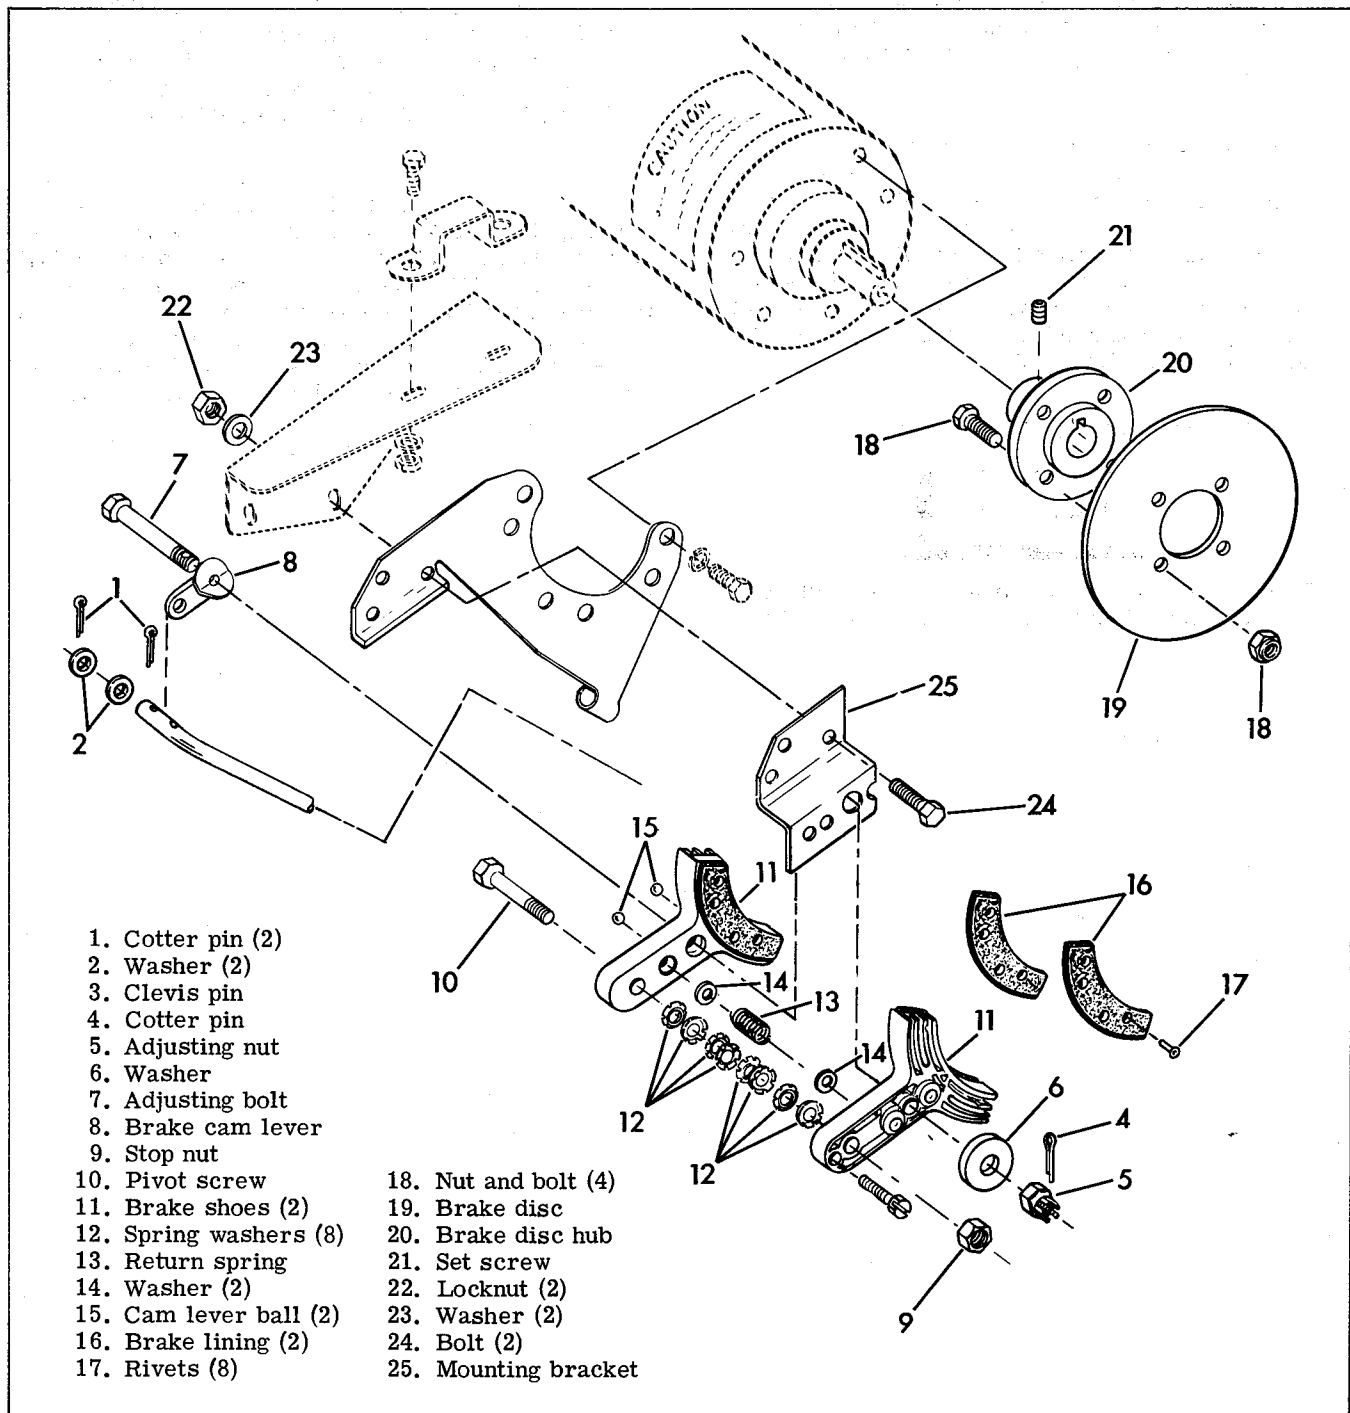
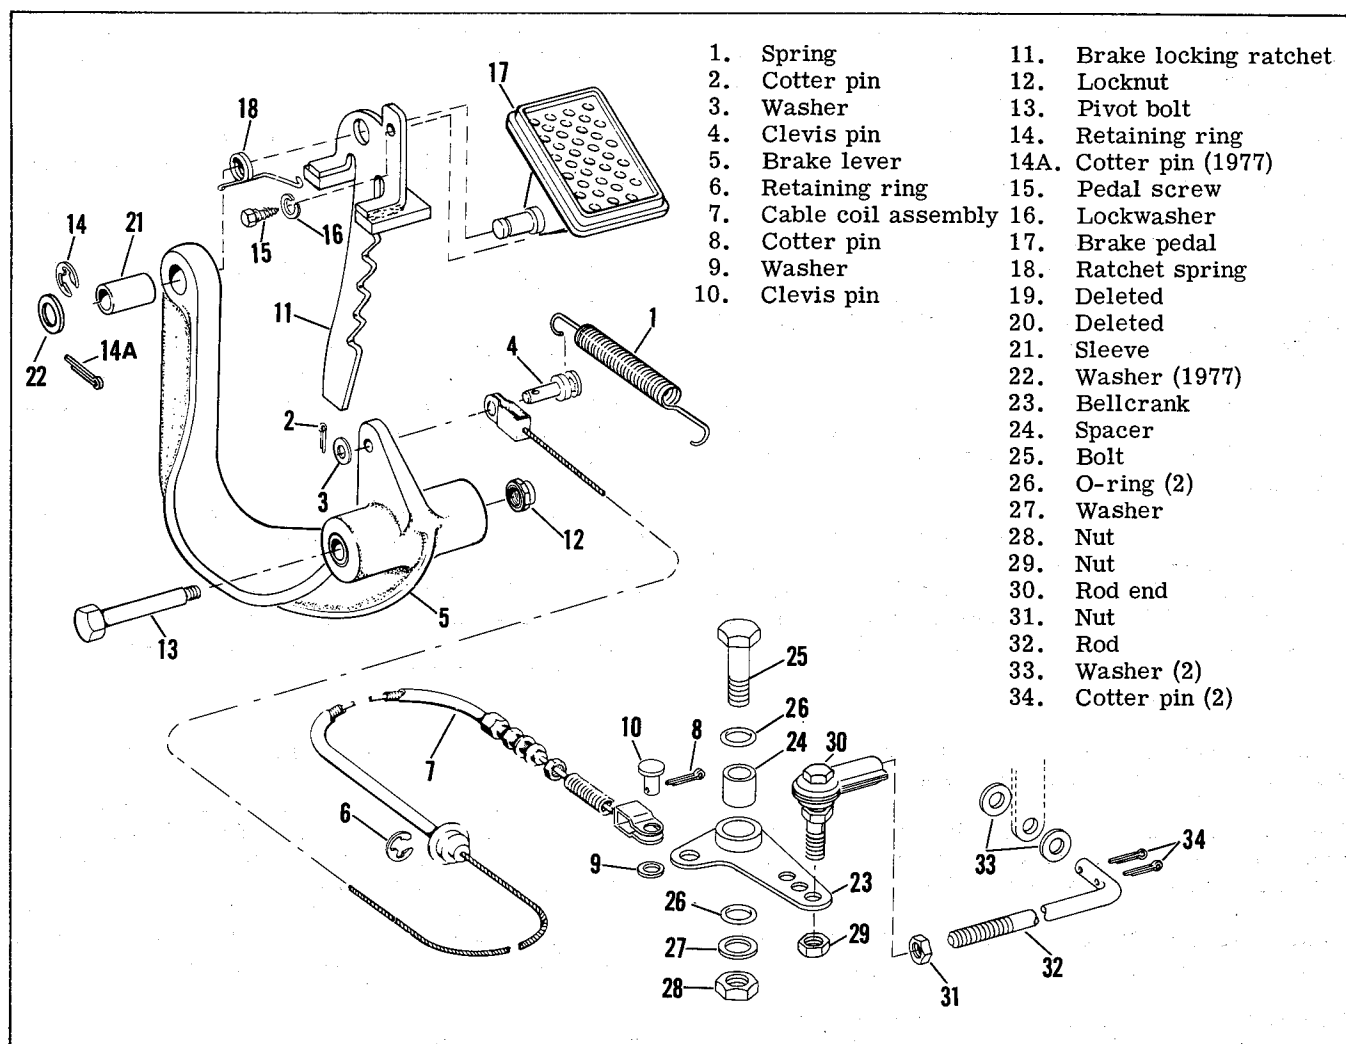

Figure 2-29. Disc Brake Assembly - Exploded View
Figure 2-30. Brake Pedal and Cable Assembly - Exploded View
ADJUSTING DISC BRAKE (Figure 2-29)
When brake lever free travel becomes excessive, indicating that brake adjustment is necessary, proceed as follows. (See Figure 2-30.) Remove cotter pin (34) and washers (33), then remove rod from cam lever. (See Figure 2-29.) Remove cotter pin (4) and tighten adjusting nut (5) until brake cam lever (8) is fully seated on cam surface of brake shoes (11). With cam lever centered in this position, reconnect brake rod to brake cam lever.
If rod does not line up with hole in brake cam lever, correct by turning rod either in or out of rod end (30, Figure 2-30). Loosen locknut (31) and screw rod (32) in or out to align rod with cam lever. Tighten locknut (31). Assemble rod (32) to cam lever with washers (33) and cotter pins (34).
Brake shoes (11, Figure 2-29) must be parallel when they contact brake disc. If the brake shoes are not parallel, brake chatter and uneven brake lining wear will develop.
REMOVING AND INSTALLING DISC BRAKE SHOES (Figure 2-29)
REPLACING DISC BRAKE CABLE ASSEMBLY (Figure 2-30)
REPLACING DISC BRAKE ROD AND BELLCRANK ASSEMBLY (Figure 2-30)
REMOVING AND INSTALLING DISC BRAKE ASSEMBLY (Figure 2-29)
ADJUSTING PARKING BRAKE LOCKING RATCHET (Figure 2-30)
DISASSEMBLING BRAKE PEDAL (Figure 2-30)